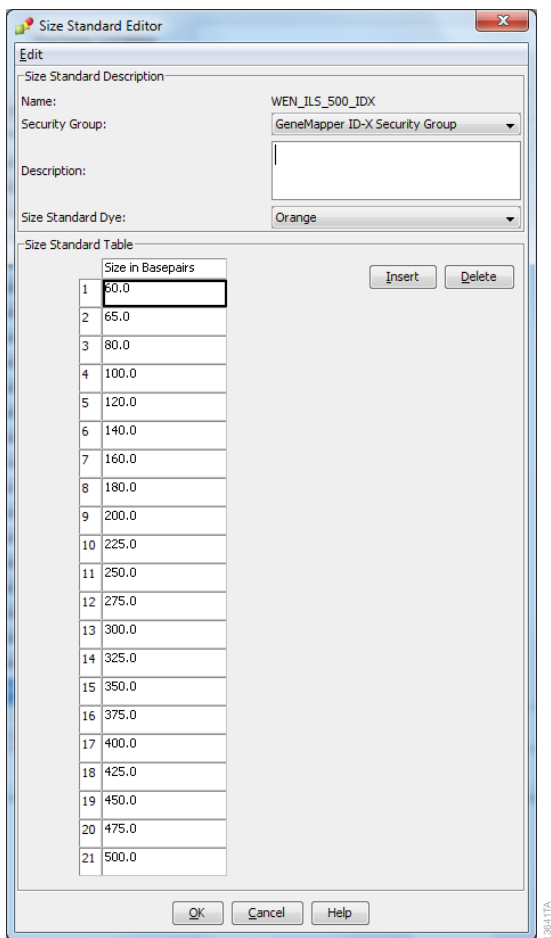

Figure 12. The GeneMapper® ID-X Size Standard Editor.
4. In the Size Standard Editor window (Figure 12), select “GeneMapper ID-X Security Group” as the Security Group. This allows access for all users of the software. Other security groups may be used.